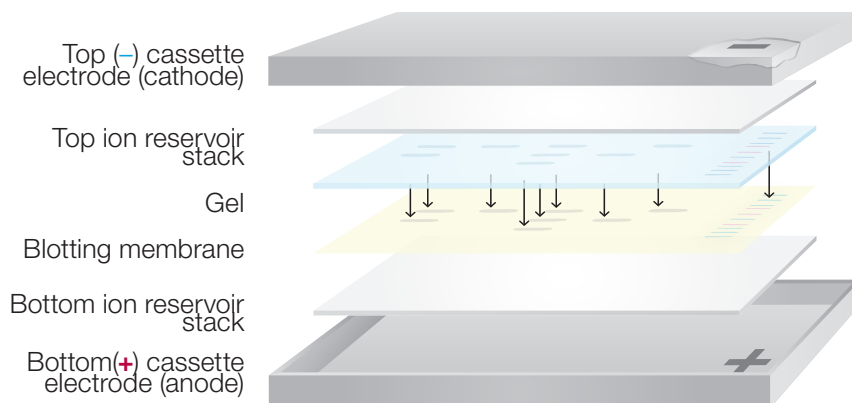

Fig. 19. Proper assembly of blotting sandwich using traditional consumables.
4. Assemble the transfer sandwich on the cassette base (anode) by placing one piece of wet extra-thick or 3 pieces of thick filter paper on the bottom, then the membrane, the gel, and finally, the remainder of the wet filter paper on top. Use the blot roller to remove air from between the assembled layers (Figure 19).